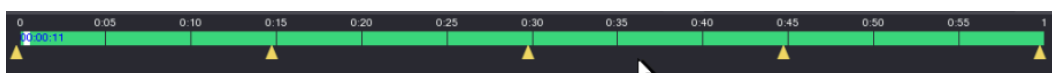

Figure 5-104
Step 5 Start playing back splices. See Figure 5-104.